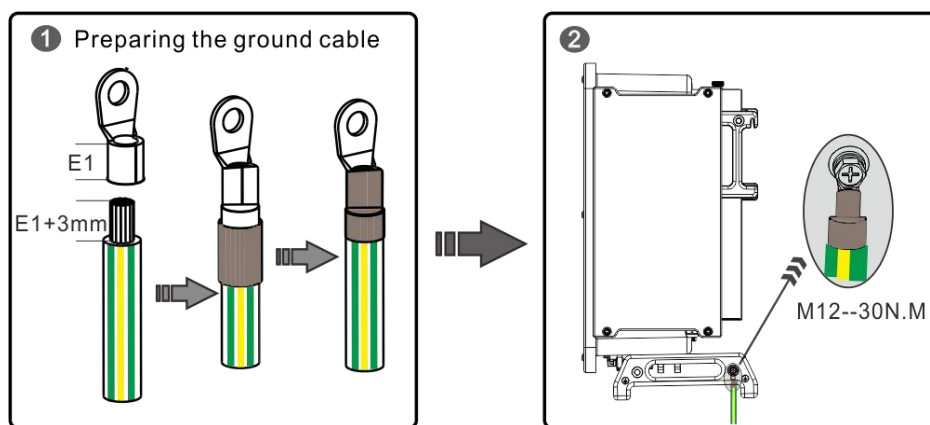

Figure 3-1 Schematic diagram of cable making (OT terminal)
- (1) Strip a section of bare copper core of the ground cable in the corresponding specifications using the wire stripper. Ensure that the length of the bare copper core is 3 mm longer than that of the OT terminal.
- (2) Cover the OT terminal with a heat shrinkable tube in a suitable size. It is recommended that the length of the heat shrinkable tube (withstand voltage  $\geq 600\text{V}$ ) be 1.5-2 times the length of the terminal.
- (3) Crimp the OT terminal to the bare copper core using the crimping pliers.
- (4) Blow the heat shrinkable tube tightly using the heat gun to wrap the terminal and cable tightly. At this time, the cable is completely made (the cable making process is shown in Figure 3-1 ).
- (5) Fasten the OT terminal of the ground cable to the ground interface with M12 screws, with a tightening torque of 30N.m (For more information, see Figure 3-1 ).